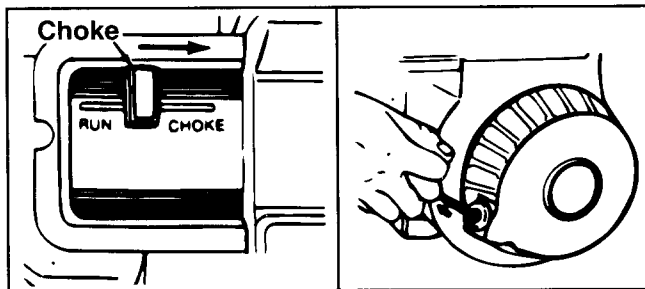

FIGURE 17.
3. Move choke lever to CHOKE position. See figure 17.